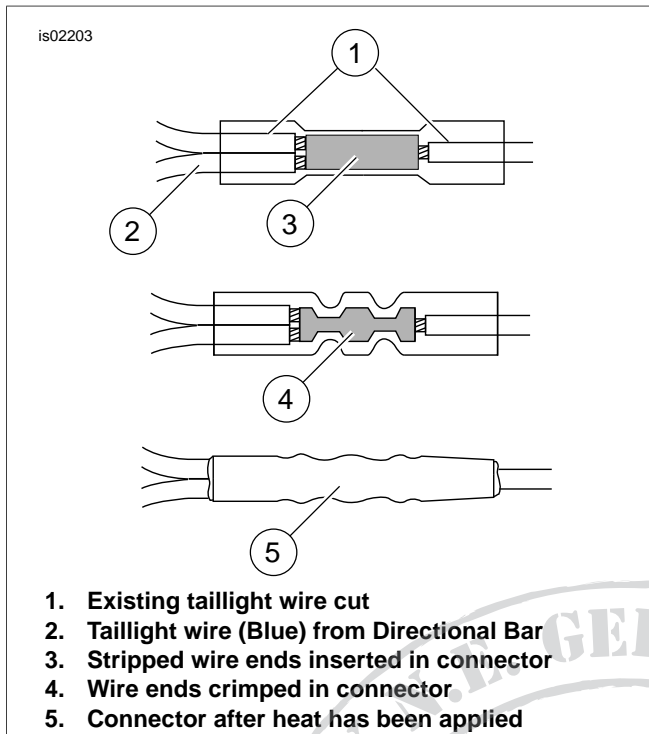

Figure 4. Install Sealed Butt Connectors (taillight and stop lamp splices)
- d. See Figure 4. For each splice, insert wire ends into splice connector as shown.
- f. See Figure 4. Using the UltraTorch UT-100 (H-D 39969), Robinair Heat Gun (Harley-Davidson Part Number 25070) with Heat shrink Attachment (H-D 41183), or other suitable radiant heating device, heat the crimped splice to encapsulate the butt splice connection. Apply heat from the center of the crimp out to each end until the sealant encloses both ends of the connector.